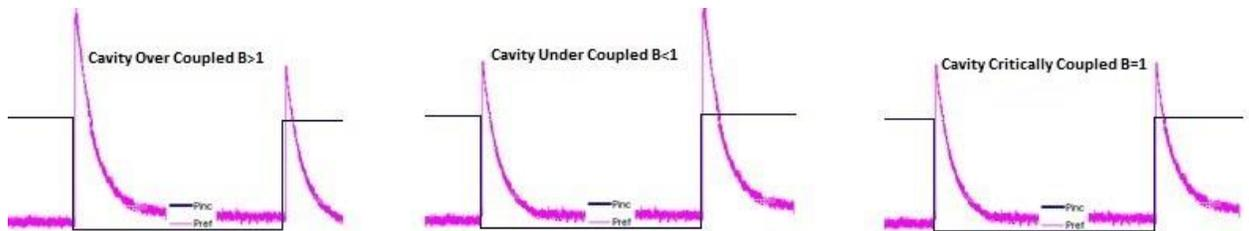

Figure 4. Examples of oscilloscope traces for overcoupled, undercoupled and critically coupled cavities.
5. The shape of the reflected power signal during the decay indicates the cavity coupling. An example of the overcoupled, undercoupled and critically coupled cavity pulse shape is shown in figure 4. Note the relative amplitude of reflected power peaks when RF power on vs. RF power off.